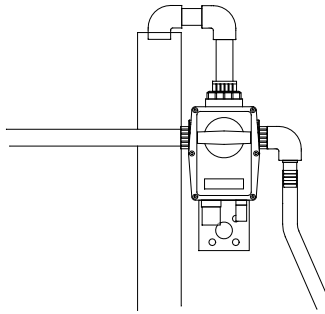

Fig. 7.4a
- Mount the supply pipe to a 100% filled pipe (see fig 7.4a). Keep the supply pipe as short as possible. **Be aware! The supply pipe needs to be disconnected for safe maintenance and reparations.**